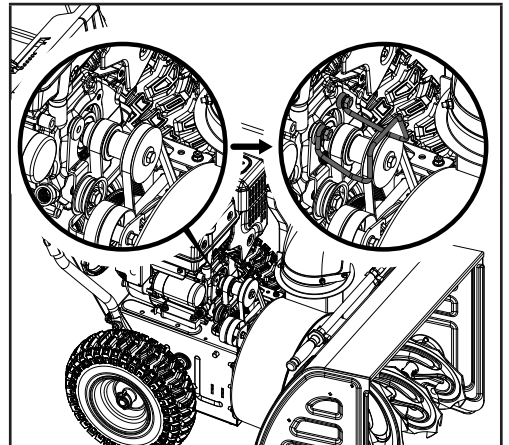

Figure 31
10. Place the belt guard back into place and install the (20 mm/30 mm) bolts that were removed earlier. Once reinstalled, make sure there is equal distance on both sides between the pulley and the guard (Fig. 31).